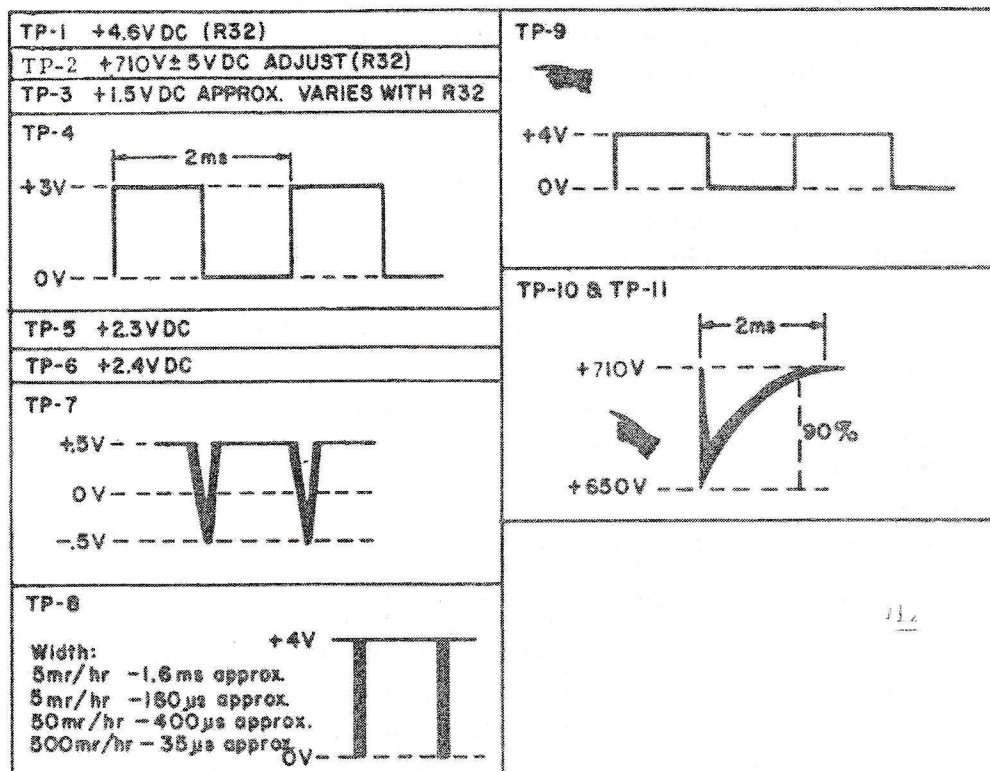

Figure 5-2. Test Point Waveforms
D. Use of Test Points. Troubleshooting of the HDER-G01 has been greatly simplified by display of many test points. The faulty circuit can be rapidly determined by comparing the observed waveform against the normal pattern shown in Figure 5-2.